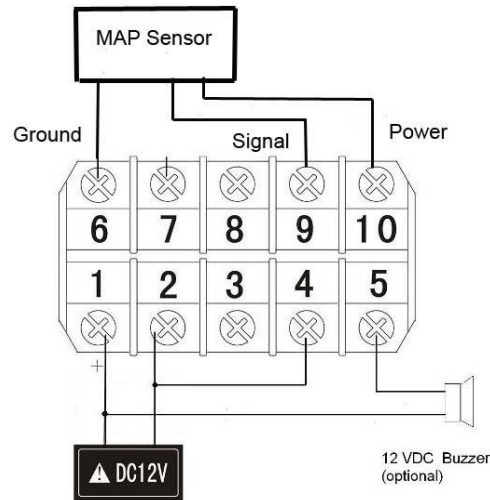

Fig 1. Wiring diagram for SYL-1813 automobile multimeter.
1) Wiring the sensor as shown in Fig 1. Connecting power lead (red) to terminal 10, signal lead (blue) to terminal 9, and ground lead (black) to terminal 6. The 12V DC buzzer is optional.